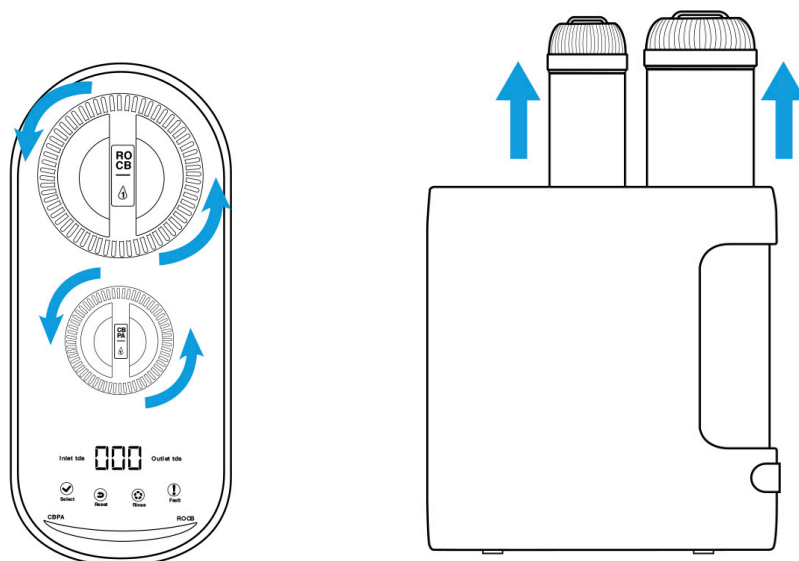

Figure 12
1. Twist the filter that needs to be replaced counterclockwise (Figure 12);